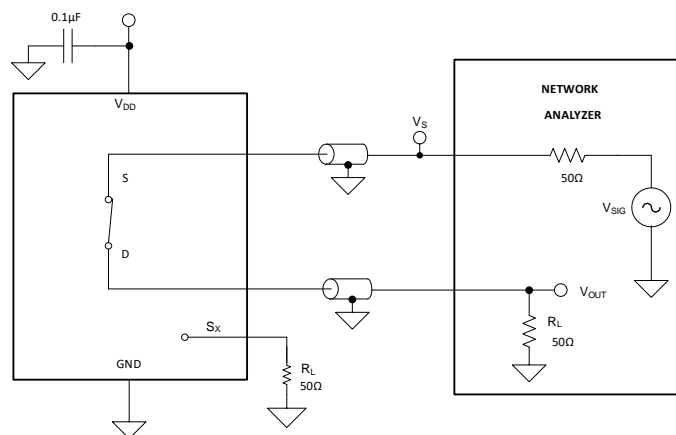

**Figure 26. Crosstalk Measurement Setup**
Crosstalk is defined as the ratio of the signal at the drain pin (D) of a different channel, when a signal is applied at the source pin (Sx) of an on-channel. Figure 26 shows the setup used to measure, and the equation used to calculate crosstalk.